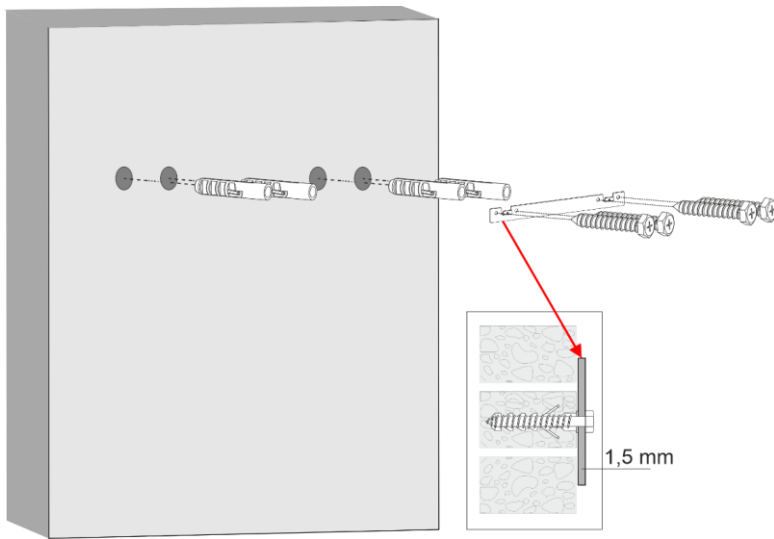

Fig. 18
- 05) Attach the **wall bracket (H)** to the wall with the correct anchors and screws, as shown in Fig. 18.